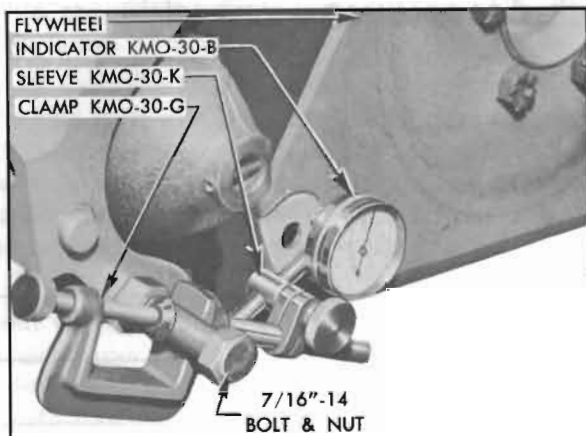

Figure 2-42—Checking Run-Out of Dynaflo Flywheel
4. Mount Dial Indicator KMO-30-B with Sleeve KMO-30-K and clamp KMO-30-G as shown in figure 2-42, so that stem of indicator bears against the flat surface of flywheel at inner side of the bolt holes.